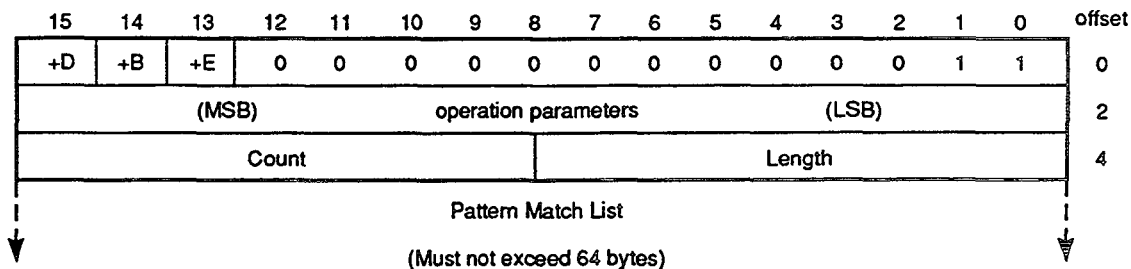

Figure 2-11. Set Receive Pattern Match Filter Command
2. If $LENGTH = 2$, then each entry in the pattern match list must be in the format shown in Figure 2-11.